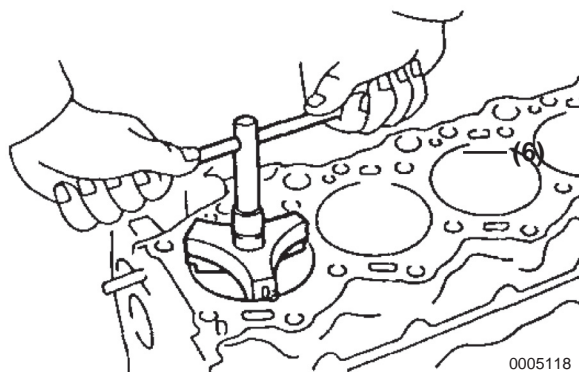

Figure 5-88
13. Before removing the pistons, remove all carbon deposits from the upper cylinder ridge areas (**Figure 5-88**).